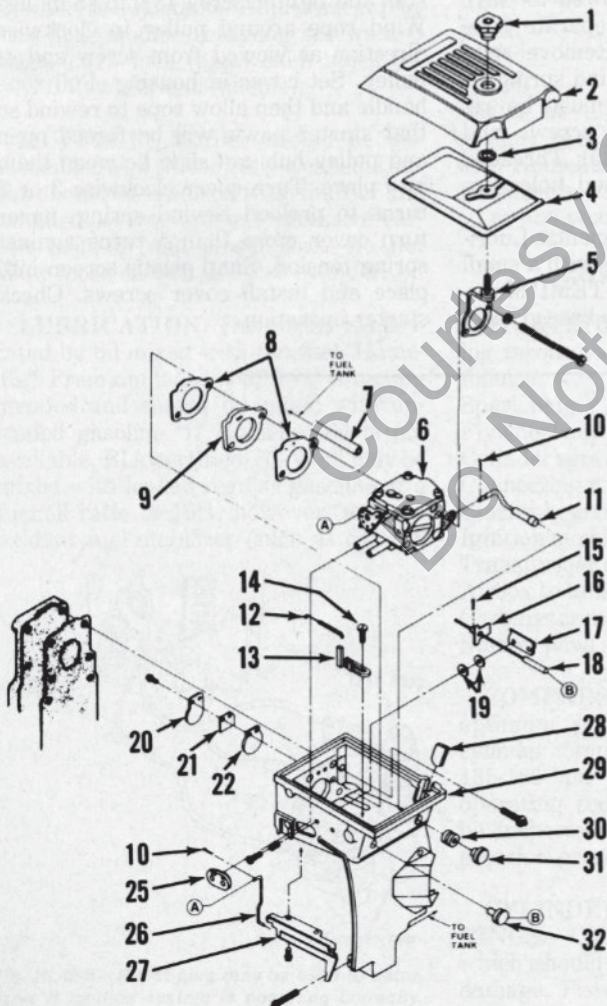
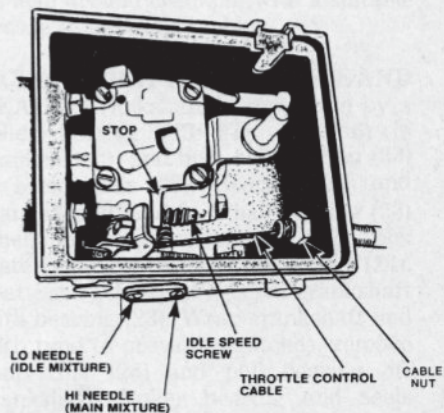

Fig. HL43-1—Exploded view of air box assembly on Model XL-12 engine.
Fig. HL43-1A—View of brushcutter air box. Outside throttle cable nut is not shown.
PUMP GOVERNOR. On pump applications, engine is equipped with air-vane type governor as shown in Fig. HL43-1.
BRUSHCUTTER GOVERNOR. The engine used in brushcutter application is equipped with an air-vane type governor; refer to Fig. HL43-1.
To adjust governor using vibrating reed or electronic tachometer, proceed as follows: With engine warm and running and throttle trigger released, adjust position of cable nuts (see Fig. HL43-1A) on remote control cable so that engine slow idle speed is 2500 rpm, or just below clutch engagement speed. Then when throttle trigger is fully depressed, engine no-load speed should be 6300 rpm. To adjust maximum governed no-load speed, loosen screw (14 - Fig. HL43-1) and move speed adjusting plate (13) as required to obtain no-load speed of 6300 rpm. When adjusting maximum no-load speed, be sure that governor link (26) is reconnected at hole "A" in carburetor throttle shaft lever. Governor spring (12) is connected